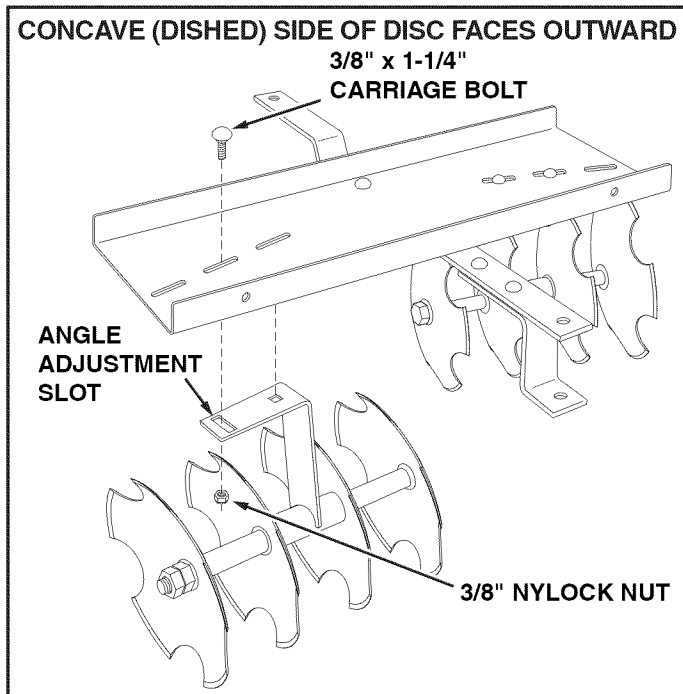

FIGURE 4
- Assemble the disc assemblies to the tray using four $3/8" \times 1-1/4"$ carriage bolts and $3/8"$ nylock nuts. Swivel the disc assemblies so that the carriage bolt is centered in the angle adjustment slot. **Tighten.** This places the discs at the standard 15 degree angle. See figures 4 and 5.
The front cultivator should be assembled as shown in figure 4. The rear cultivator should be assembled using the following instructions. Note that the position of the tray and drawbar are the reverse of the front cultivator.